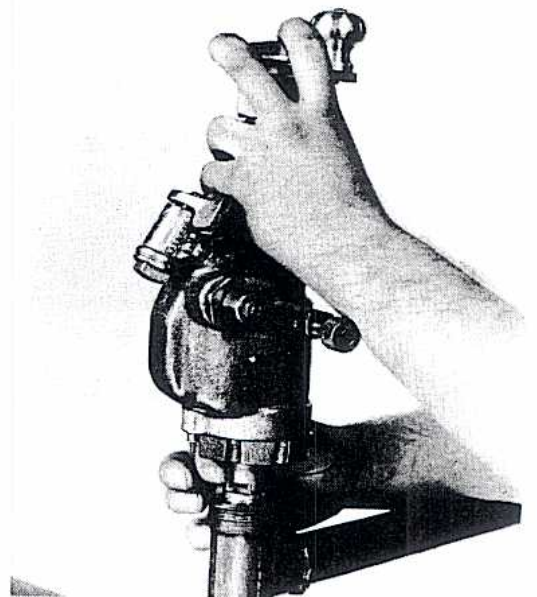

FIGURE 21
11. Lower the extracting fork so that it engages the flats of the completion plug or bushing. FIGURE 21.